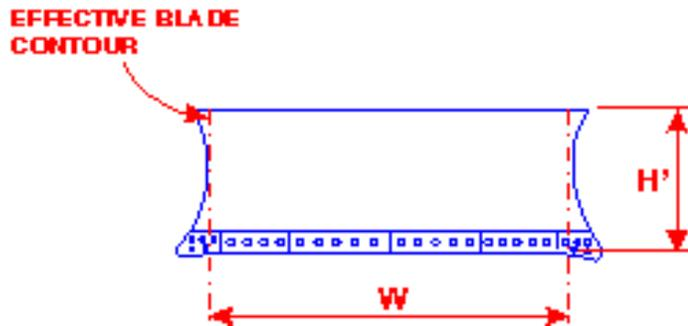

FIG. 5 ANGLING BLADE DIMENSIONS
4.3.1 Blade Width ( $W$ , Fig. 5)-The minimum blade width in meters.
4.3.2 Effective Blade Height ( $H'$ , Fig. 5)-Vertical height in meters with the blade in the mid-pitch position.  $H'$  corresponds to dimension  $F$  in SAE J173.
4.3.3 Effective Blade Contour (Fig. 5)-Simplified representation of the blade face for calculating the blade capacity. It is the vertical plane bounded by  $W$  and  $H'$ .